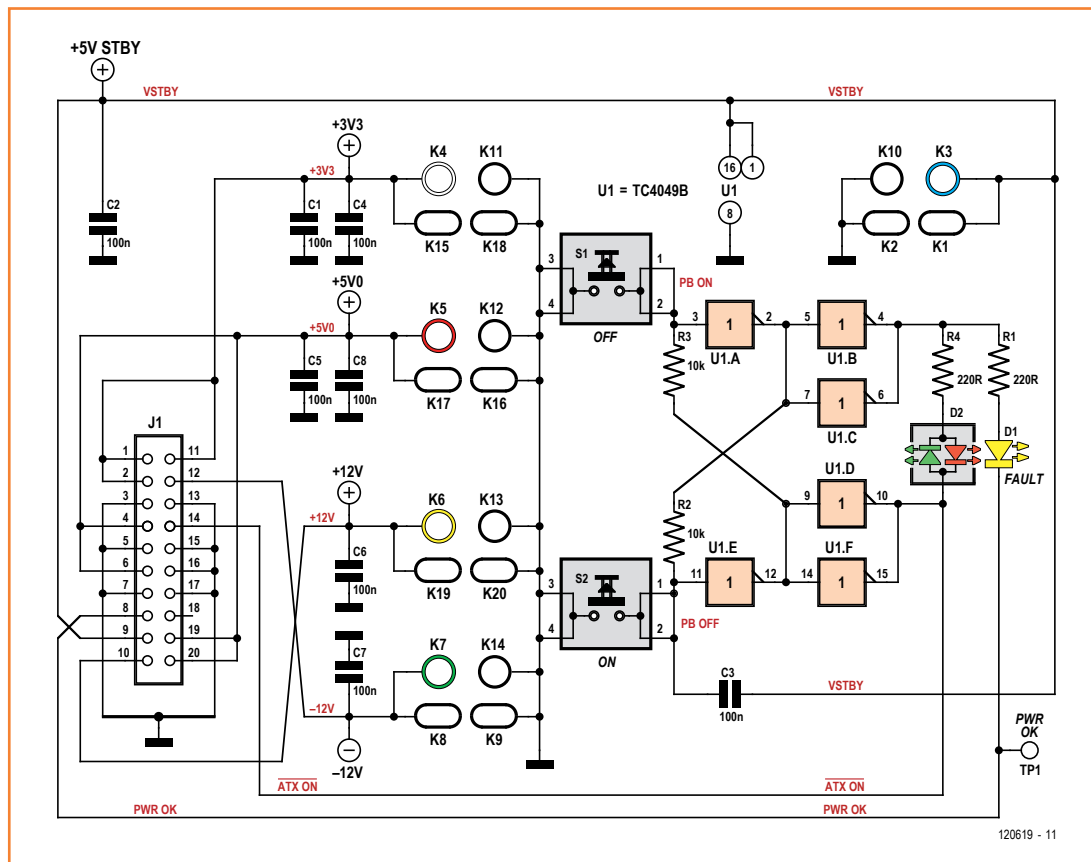

Figure 1. The schematic shows how simple this power supply add-on actually is.
**Figure 1** shows the circuitry for this design. The switching circuit is a simple latch based on two
The BlockProtocol includes the 'x' command specially designed for use in development with the EFL. The command causes the board to send a dump of the EFL tables to the PC. The tables are used by the hardware layer to determine the microcontroller pins and registers that need to be changed in response to a function call. The entries are specific to the board and any expansion board that might be attached. The screenshot in **Figure 1** shows what appears in the terminal window when the board shown alongside is used. On the left is the 'map' including the features of the microcontroller such as the UART and ADC that are set up by the board initialization code.
Figure 1. Dump of the EFL tables as seen in the terminal emulator. On the left is the map with the microcontroller features in use (red numbers in the board block diagram); in the middle is the block table (blue numbers); and on the right are the board pins (green numbers).